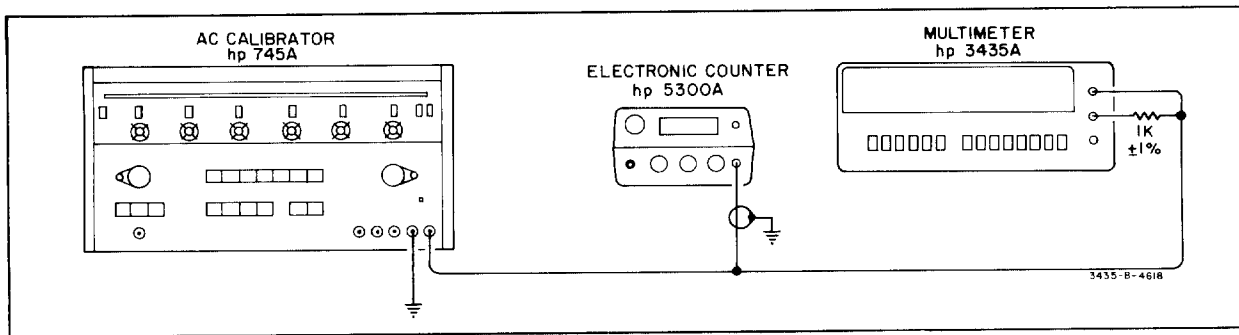

Figure 5-7. Effective Common-Mode Rejection Test.
- c. Connect an AC Calibrator as shown in Figure 5-7 and set the output amplitude to 100 V at 60 Hz ± 1 Hz. (Period = 16650 to 16683 μs.)